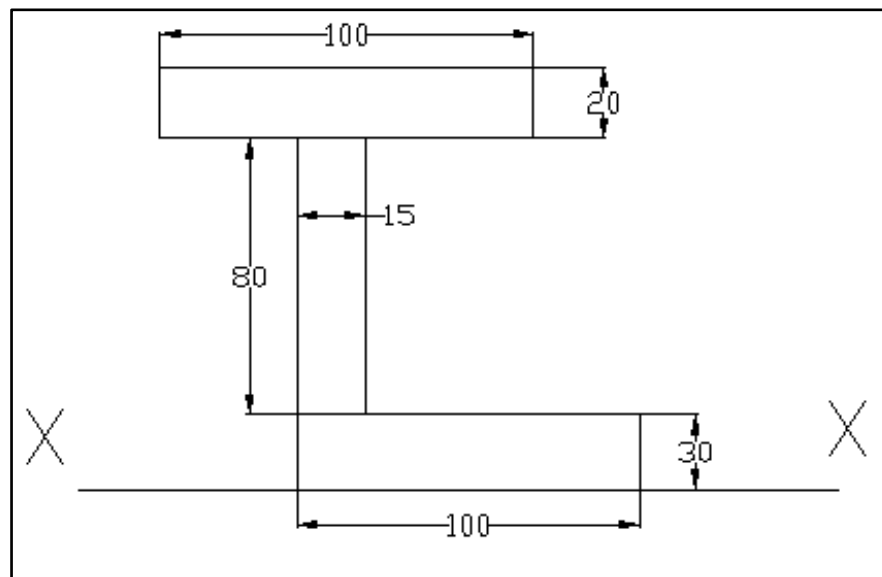

Fig.3
3. (a) Determine the position of centroid of the section as shown in Fig.3 about X-X axis. All dimensions are in mm.